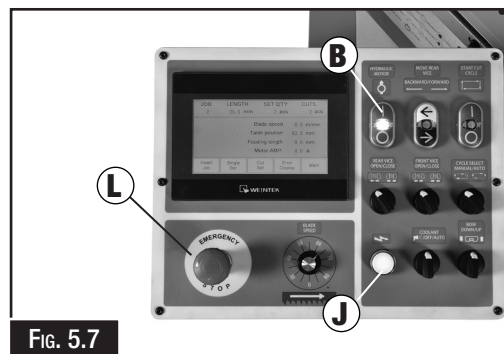

Fig. 5.7
- Twist to reset emergency stop then power indicator light on controller will light up (J in Fig. 5.7).